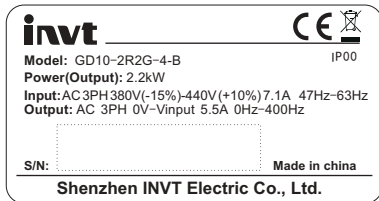

Figure 2-1 Nameplate
**Note:** Figure 2-1 shows an example of a Goodrive10 series VFD nameplate. The CE, TUV, or IP rating is labelled according to product certification.